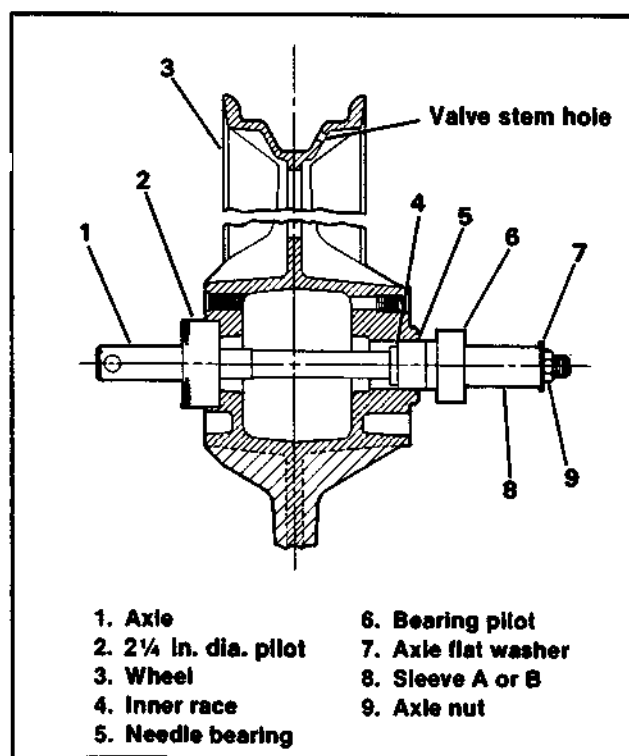

Figure 1. Bearing Installation
1. See Figure 1. Install bearing as follows: